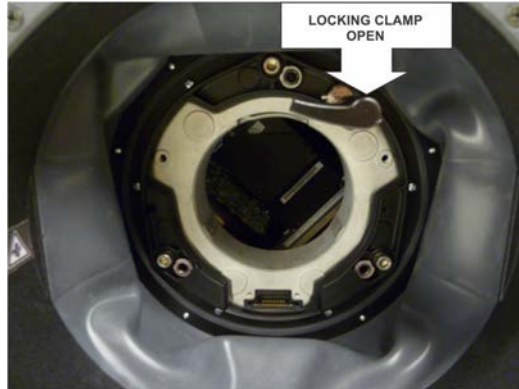

FIGURE 5-6
1. Rotate the lens clamp to the OPEN position, to remove old lens. See Figure 5-6.